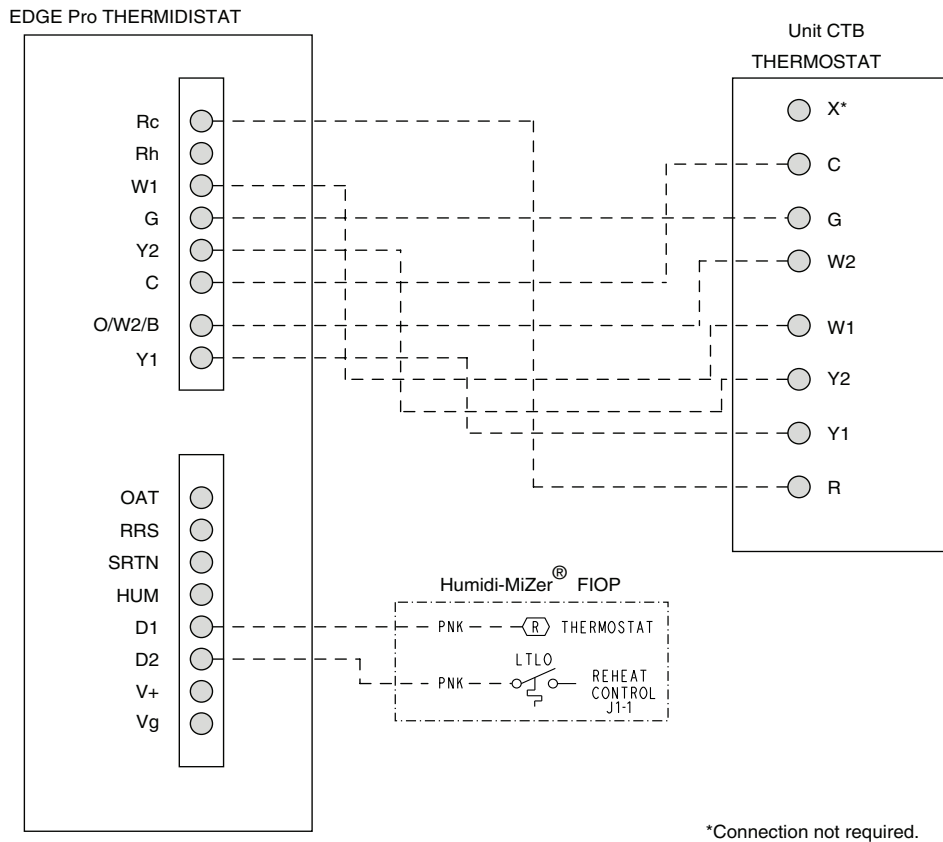

Fig. 71 — 48TC07-16 Unit with Humidi-MiZer Adaptive Dehumidification System with Edge® Pro Thermidistat Device**
3. The Thermidistat has dry contacts at terminals D1 and D2 for dehumidification operation (see Fig. 71). The dry contacts must be wired between CTB terminal R and the PINK lead to the LTLO switch with field-supplied wire nuts. Refer to the installation instructions included with the Carrier Edge Thermidistat device for more information.
5. The Thermidistat has dry contacts at terminals D1 and D2 for dehumidification operation (see Fig. 71). The dry contacts must be wired between CTB terminal R and the PINK lead to the LTLO switch with field-supplied wire nuts. Refer to the installation instructions included with the Carrier Edge Thermidistat device for more information.